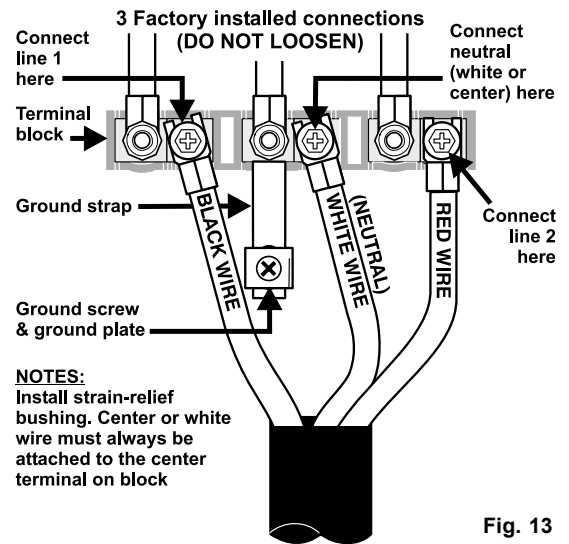

Fig. 13
**(3-Wire Connection Instructions . For existing installations ONLY - Refer to Fig. 13).**
2. Insert the end connectors for Line 1, Line 2 and Neutral and tighten securely to the terminal block (See Fig. 13).
**Grounding Instructions (3-Wire Connections only):** A ground strap is installed on this range which connects the center terminal of the terminal block (Neutral) to the range chassis. The ground strap is connected to the range by the center, lowest screw (See Fig. 13). The ground strap must not be removed unless National, State or Local Codes do not permit use of a ground strap.